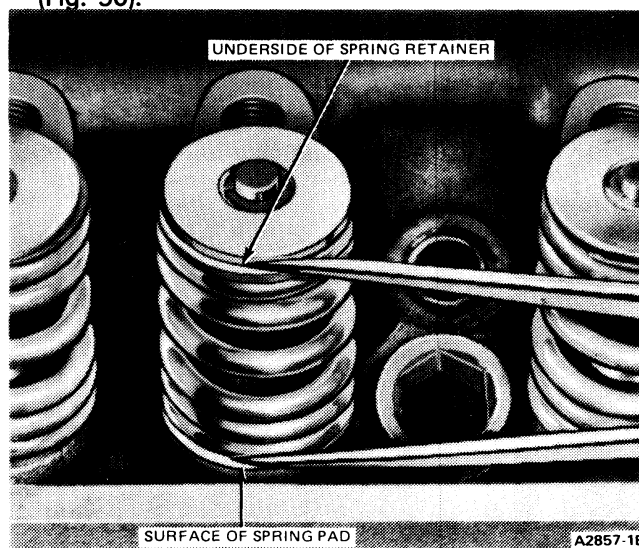

FIG. 50 Checking Valve Spring Assembled Height—Typical
7. Measure the assembled height of the valve spring from the surface of the cylinder head spring pad to the underside of the spring retainer with dividers (Fig. 50).